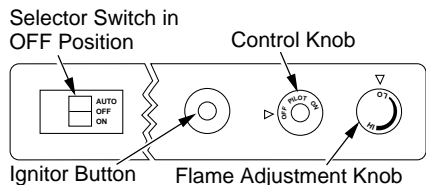
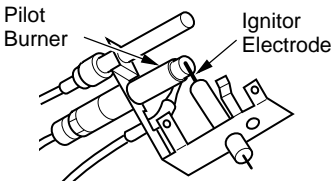

Figure 36 - Control Knob and Ignitor Button Location (Shown as Supplied - No Control Options)
Figure 37 - Propane/LP Gas Pilot
4. Press in and turn control knob clockwise  to the OFF position (see Figure 37).
5. Wait five (5) minutes to clear out any gas. Then smell for gas, including near the floor. If you smell gas, **STOP!** Follow "B" in the safety information, column 1. If you don't smell gas, go to the next step.
6. Press in and turn control knob counter-clockwise  to the PILOT position. Press in control knob for five (5) seconds (see Figure 36).